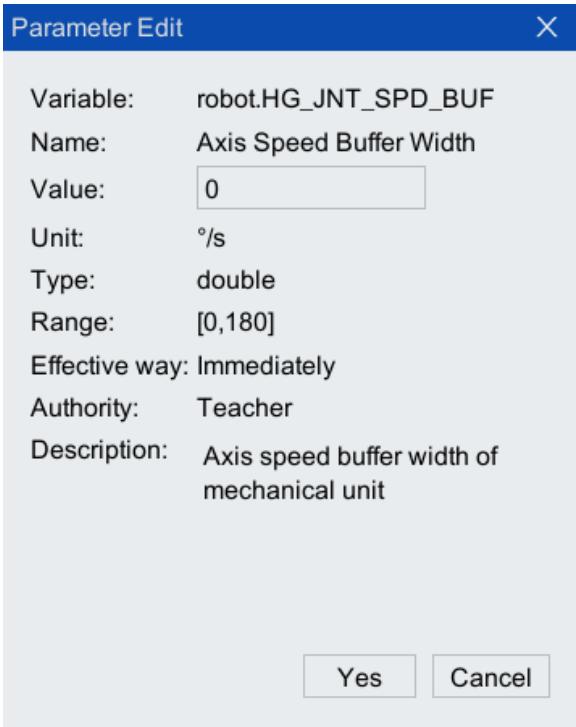

Figure 5-21 Axis speed buffer width configuration interface
Step4. In the pop-up [Parameter Edit] interface (as shown in Figure 5-21), configure the [Value]. The width of the axis speed buffer should usually be set to a value greater than 20 %/s. If the set additional resistance moment is not felt, the width of the axis speed buffer should be further increased. Parameter description is shown in Table 5-6.